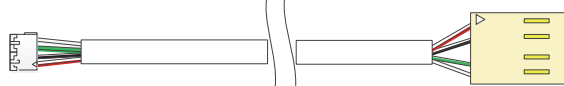

Figure 3 – Connector Cable IP150/UC300 to PCS250/PCS250G
- Plug in the PCS250/PCS250G cable between the UC300 serial port and the PCS250/PCS250G serial port. See Figure 3 for the proper cable.
Note: If you are programming the UC300 using the 307USB disconnect the PCS250/PCS250G, from the UC300 and connect the 307USB to the serial port. You may need to replace the serial cable with a cable in Figure 3.
- Plug in the IP150 to the PCS250/PCS250G using the IP150 PCS250/PCS250G port and the PCS250/PCS250G serial port. See Figure 3 for the proper cable.
Note: To configure the UC300 when NO IP150 is connected you will need a 307USB from Paradox and a connector cable IP150/UC300 to PCS250/PCS250G see Figure 3.
5. Replace with the serial cable with the connector cable IP150/UC300 to PCS250/PCS250G see Figure 3.